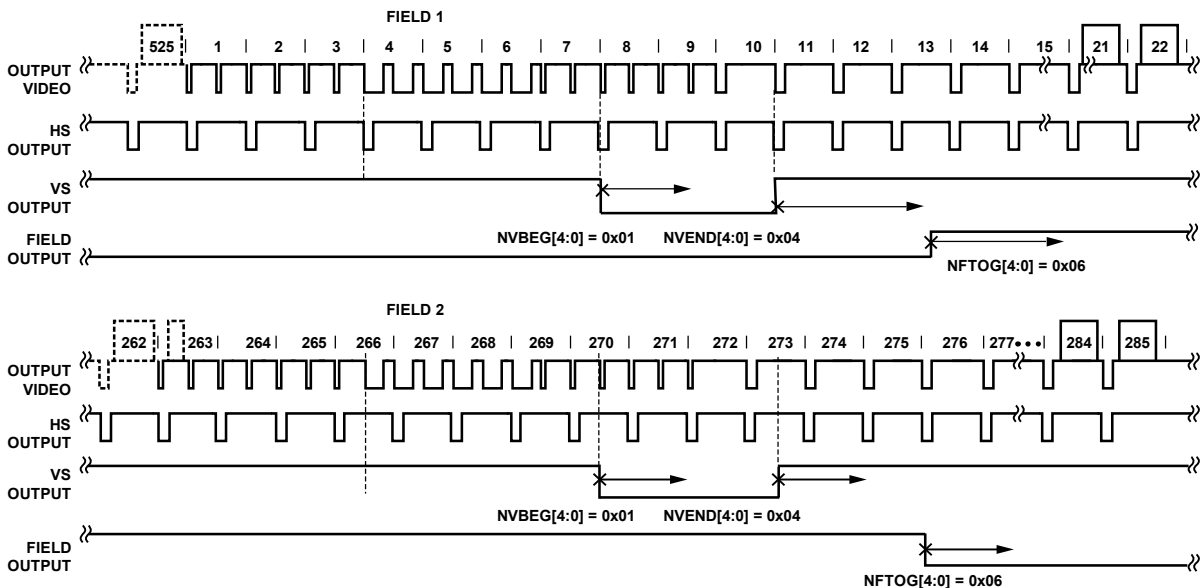

Figure 39. NTSC Typical VSYNC/FIELD Positions Using the Register Writes in Table 65
**Table 65. User Settings for NTSC (See Figure 39)**